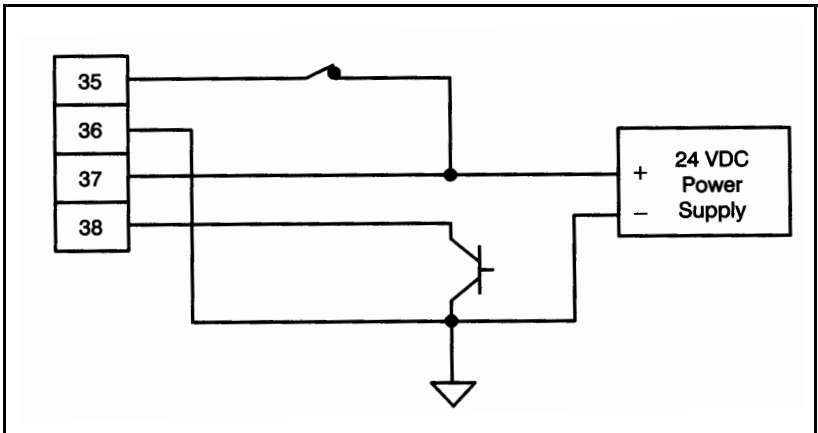

Figure 3.5 – Typical Registration Input Connections
Step 8. Mount the registration sensors on your machine if your application requires them. Fasten the field wires from the sensors to the terminal strip. Use extra care in routing these wires because these signals are not filtered on the module. Typical field connections are shown in figure 3.5.